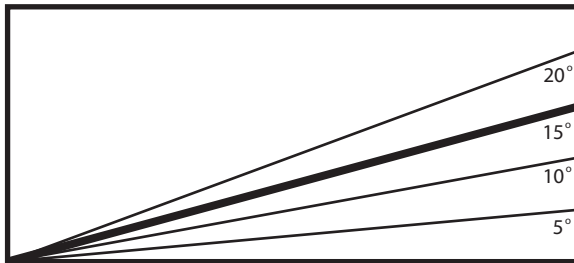

Figure 2-4. Slope Angle Graph
DO NOT operate on steep slopes. To check a slope, attempt to back up it (with the cutter deck down). If the machine can back up the slope without the wheels slipping, reduce speed and use extreme caution. Under no circumstances should the machine be operated on slopes greater than 15 degrees. See Figure 2-4, Page 8 to determine approximate slope of area to be mowed. ALWAYS FOLLOW OSHA APPROVED OPERATION.
20. Be cautious when loading and unloading onto trailers or trucks. Use only a full width ramp. Ramp angle should be no more than 15 degrees. See Figure 2-4, Page 8 to determine approximate slope of the ramp. Back up the ramp and drive down forward.
Stay off of slopes too steep for safe operation. To check a slope, attempt to back up it (with the cutter deck down). If the machine can not back up the slope without the wheels slipping, do not operate the machine on this slope. Under no circumstances should the machine be operated on slopes greater than 15 degrees. See Figure 2-4 to determine approximate slope.
Ramp angle should be no more than 15 Degrees. See Figure 2-4 to help determine approximate slope.